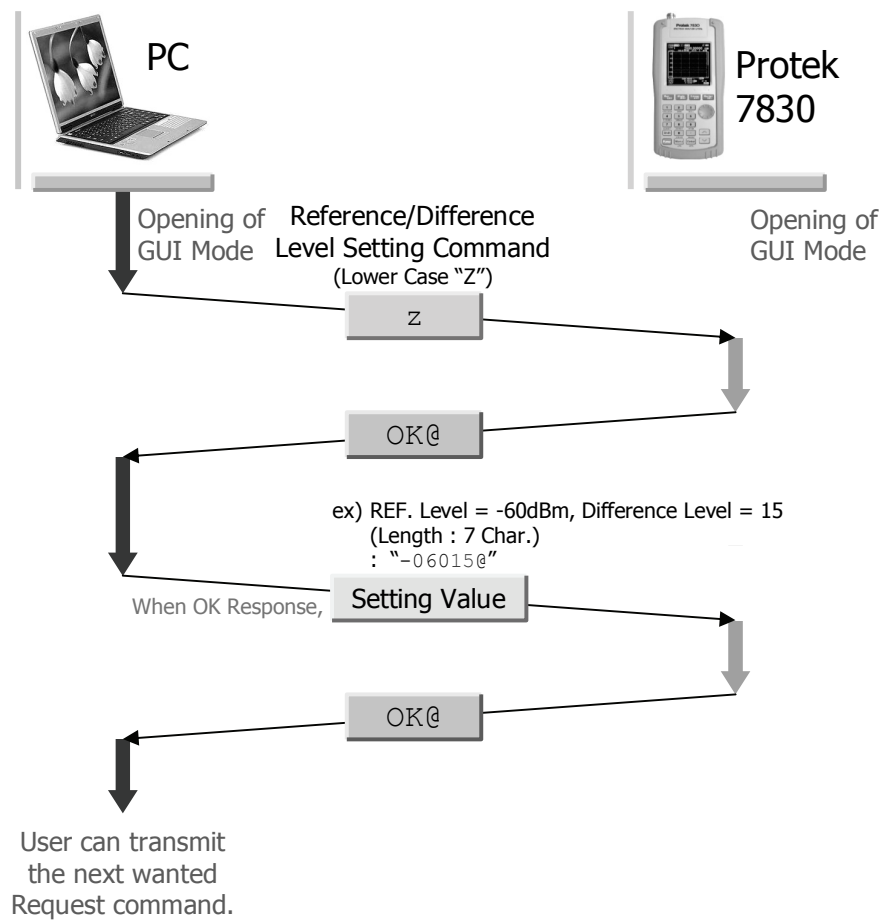

Figure 5.5. “Setting of Reference and Difference” Protocol
- 4) The using of this communication protocol is as below and refers the Figure 5.5.